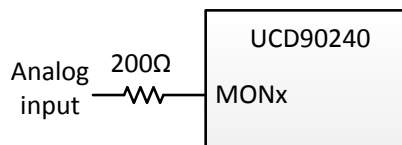

Figure 34. Example of Analog Inputs
- It is recommended to maintain at least 200- Ω resistance between a low-impedance analog input and a MON pin. For example, when monitoring a rail voltage without resistor divider, it is recommended to place a 200- Ω resistor at the MON pin, as shown in Figure 34.